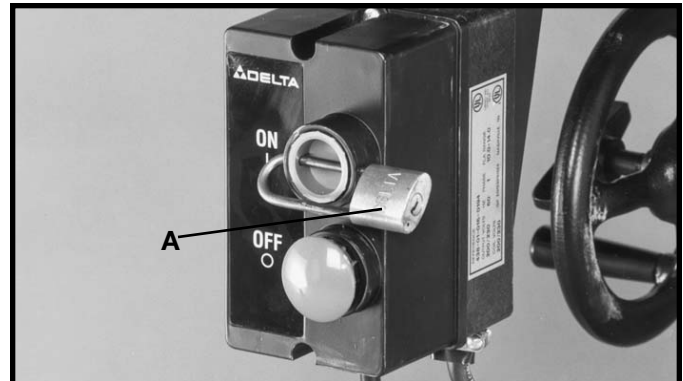

Fig. 40
**IMPORTANT:** When the machine is not in use, the switch should be locked in the "OFF" position using a padlock (A) Fig. 40, (Delta Cat. No. 50-325), with a 3/16" diameter shackle to prevent unauthorized use. **NOTE: GPE switch shown.**